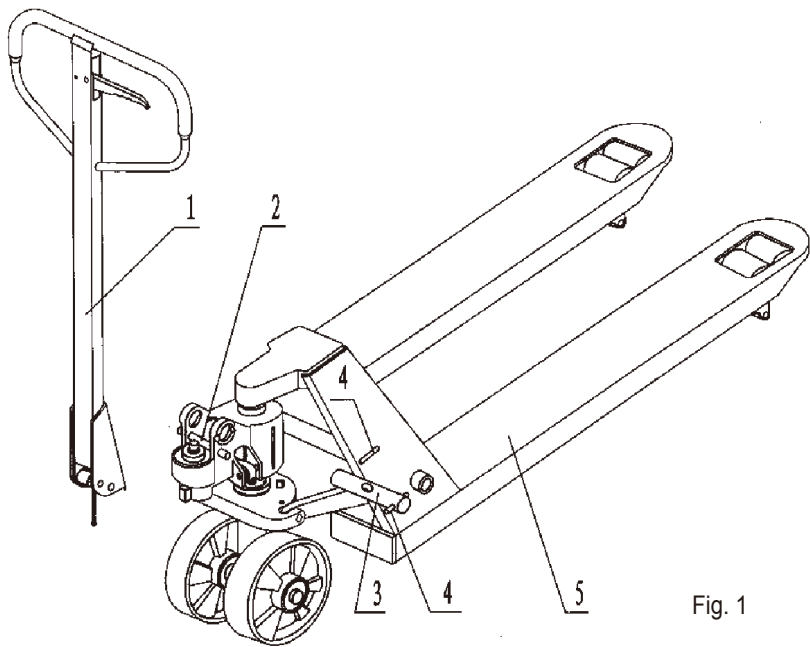

Fig. 1
2.3 Press the draw-bar (A110, A110B) down, take away the pin(#2) (See Fig. 1).